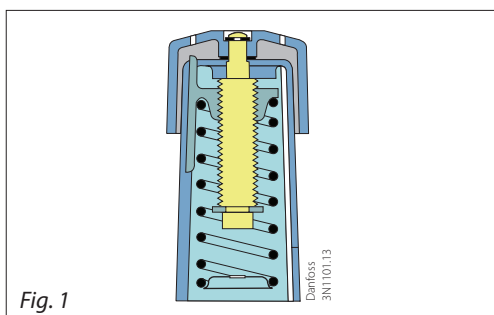

Fig. 1
1. Fig 1. Setting section with knob, reference spring and setting scale.